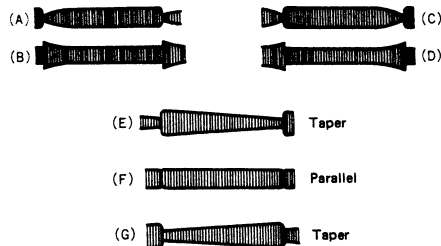

Fig. 2-21 FM waveform at minimum output
13. Turn the tracking control for minimum FM waveform output. If the waveform appears as shown by the examples (A), (B), (C) or (D) of Fig. 2-21, fine-adjust the supply and take-up guide rollers to obtain a waveform as shown by examples (E), (F) and (G).